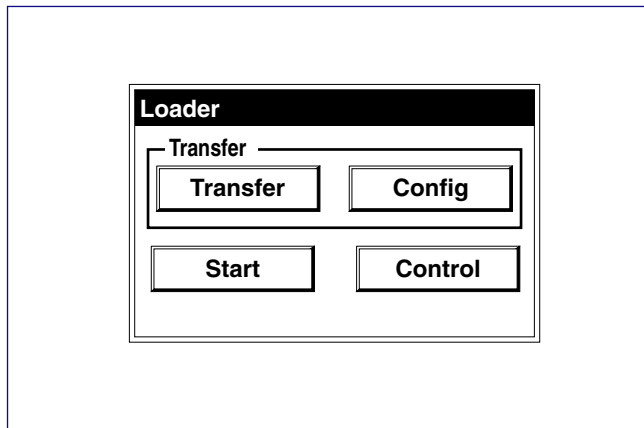
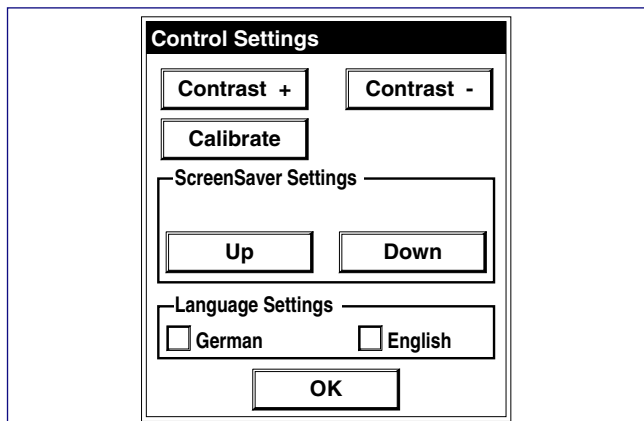

FIGURE 1, Initialization Screen Menu
FIGURE 2, TP170A Control Settings Menu
Step 2 During initialization phase, the Initialization Screen Menu appears briefly (see Figure 1). Touch the Control button to call in the TP170A Control Settings Menu (see Figure 2).
In order to set the screen saver response time, use the Up and Down buttons in the TP170A Control Settings Menu (see Figure 2).